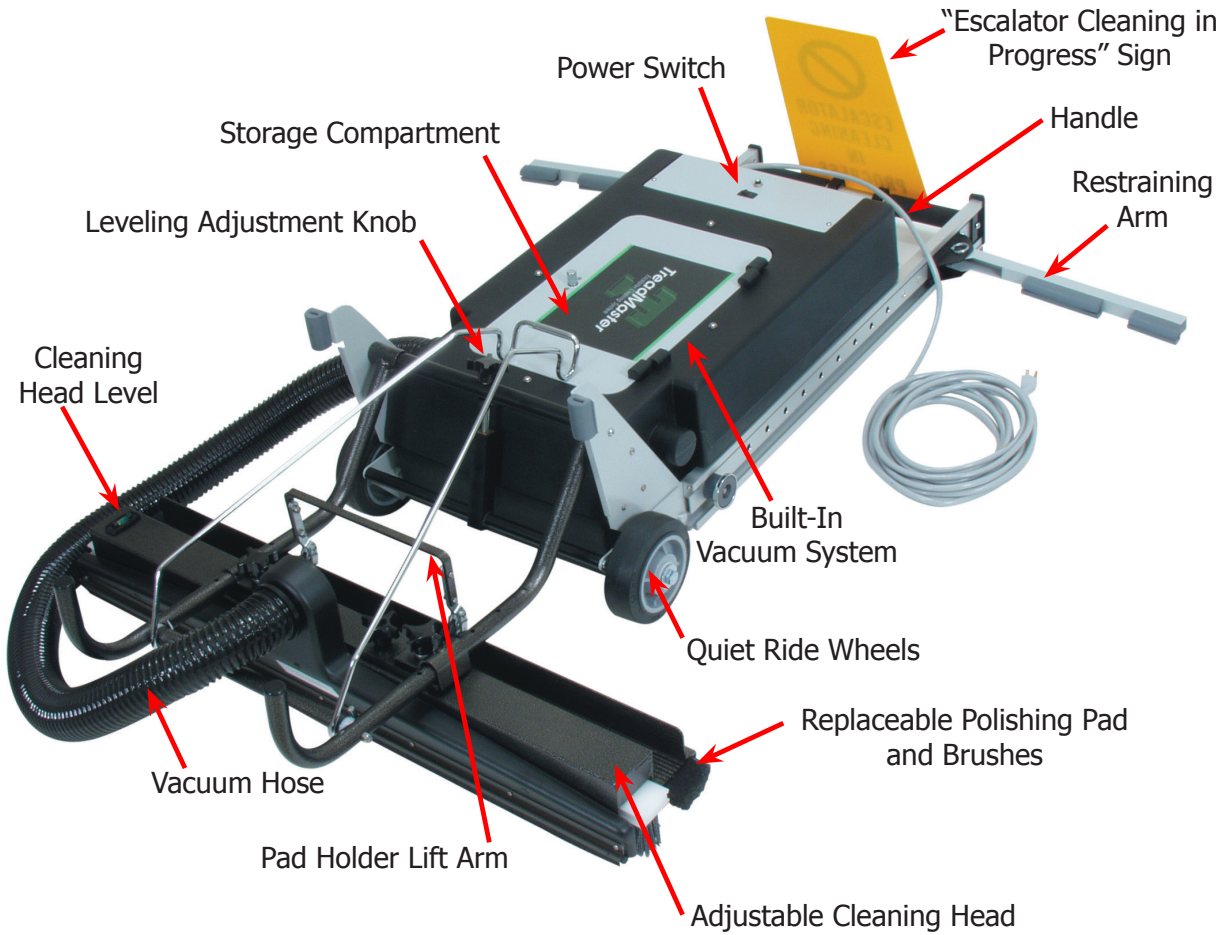

Figure 12. Components of TreadMaster
Make sure that the warning sign is clearly visible at all times during operation of the TreadMaster as indicated in Figure 12. If anyone attempts to use the escalator/moving sidewalk during cleaning operations, serious injury could result.
- Slide the restraining arms in their channel to position the cleaning head over the tread. Notice that the pin in the end of the arm will fit into one of the holes in the channel, locking the arm into place. Extend the restraining arms to their full locked position (see Figure 12 and Figure 13).
- Use the leveling adjustment knob to ensure proper contact with the tread surface (see Figure 12). Check the cleaning head level to ensure proper adjustment (see Figure 12 and Figure 14).
- Attach the vacuum hose between the cleaning head and the tank nozzle (see Figure 12).
5. Turn on the TreadMaster's power switch (see Figure 12).